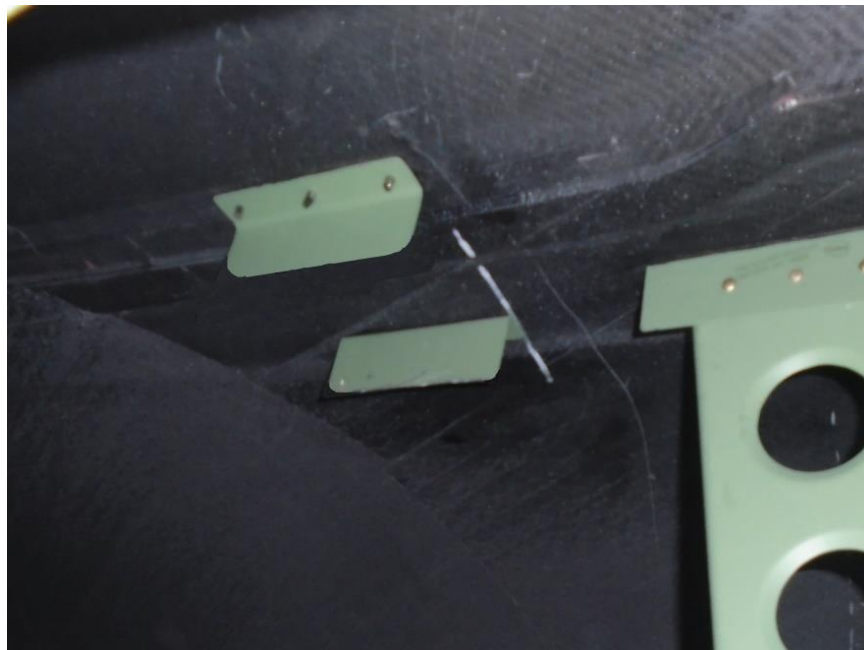

Figure 6 - Trimmed Magnetometer Brackets
- 1) Cut the bracket off leaving about an inch of material from the ceiling. Round the corners and deburr the edges so the remaining attached pieces do not cause a ripping hazard for the AC duct that will be installed in future steps. See Figure 6.